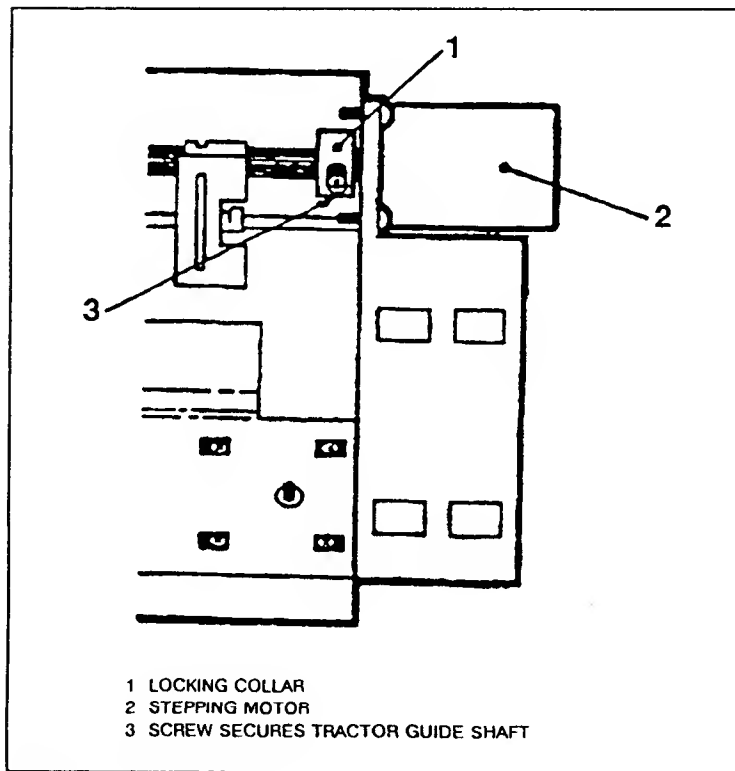

Figure 6-9. Stepper Motor
- c. Using a 3mm internal hex driver (allen wrench), loosen the set screw on the locking collar at the stepper motor tractor drive shaft (see Figure 6-9).